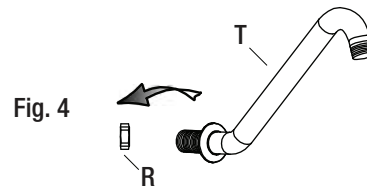

Fig. 4
- Remove the nut (R) that is pre-installed in the shower arm (T), see Fig. 4.